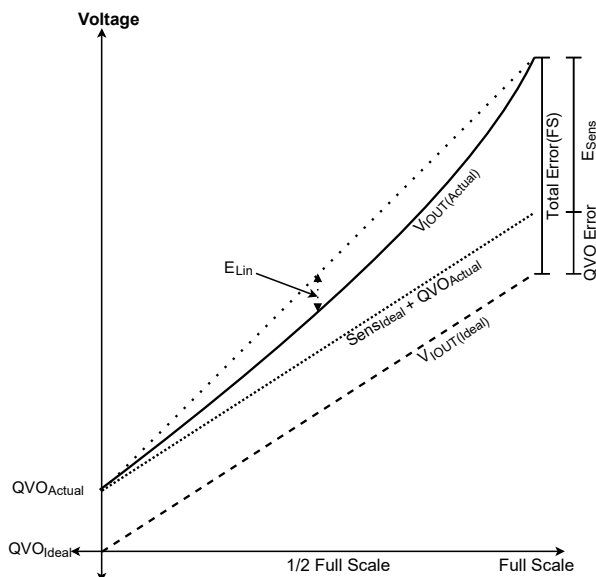

Figure 9: Accuracy Error
As the amount of field applied to the part changes, the sensitivity of the device can also change slightly. This is referred to as linearity error or E_{LIN} (see Figure 9). Consider two currents, I_{P1} (1/2 FS) and I_{P2} (FS). Ideally, the sensitivity of the device is the same for both fields. Linearity Error is calculated as the percent change in sensitivity from one field to another. Error is calculated separately for positive ($E_{LIN(+)}$) and negative ($E_{LIN(-)}$) currents, and the percent errors are defined as: